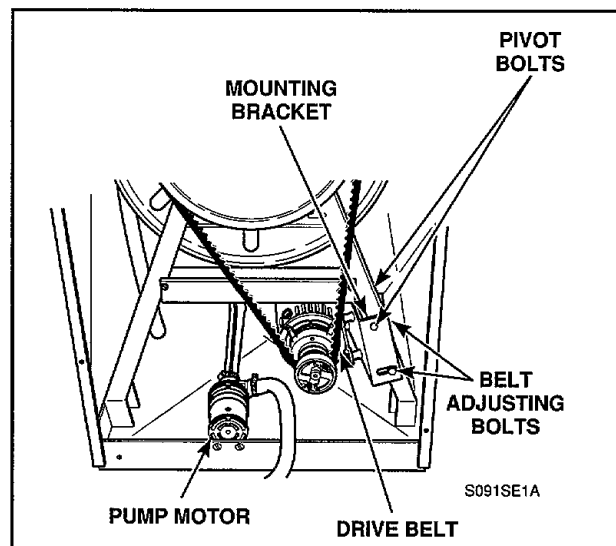

Figure 34
- Run belt off cylinder pulley, *Figure 34*.
- Remove two mounting bracket pivot bolts and lockwashers, *Figure 34*, and allow assembly to pivot down and rest on washer base. Belt adjusting bolts may have to be loosened slightly.
- Remove two belt adjusting bolts, washers and lockwashers, *Figure 34*, and lift assembly out of washer.
- Loosen hose clamps and remove hoses from pump, *Figure 34*.
- Remove two screws, nuts and lockwashers holding pump mounting bracket to washer base, *Figure 34*.
- b. Run belt off pulley, *Figure 34*.
- Run belt off pulley, *Figure 34*.